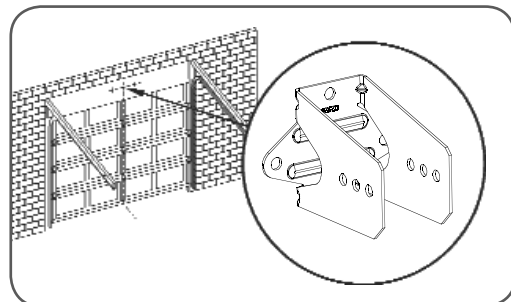

fig 05
4. Mark the position of the bracket on the wall above the door (**Fig. 05**).